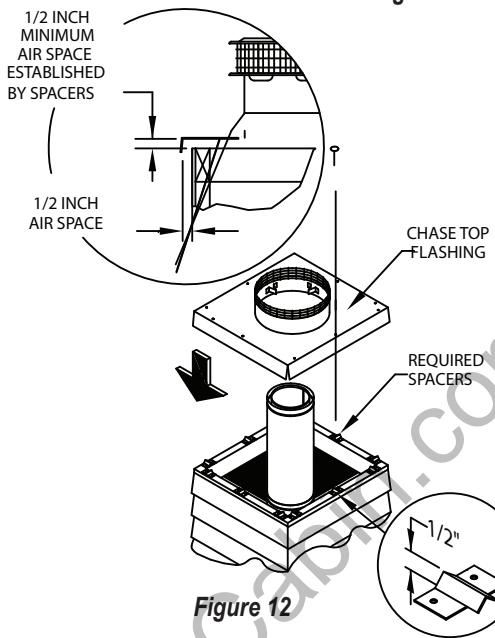
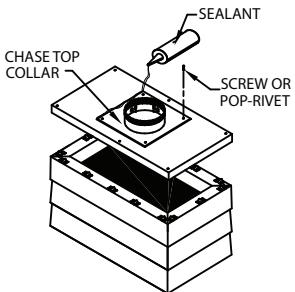
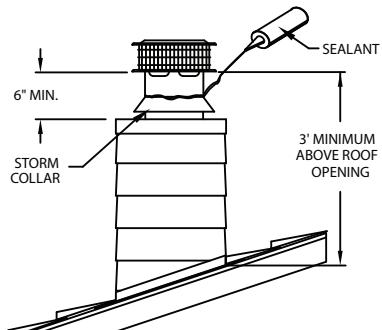
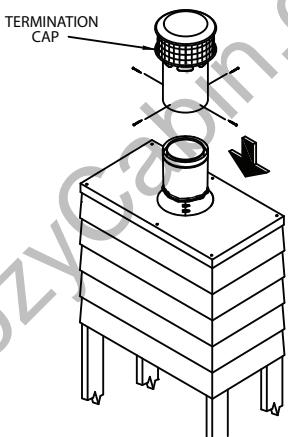

Figure 12
Figure 14
Figure 15
Figure 16
12. Attach Flashing: For chase enclosures, use a Chase Top Flashing. The Chase Top Flashing allows for a 1 ½-inch clearance maintained from the chimney and provides required ventilation air. Install the Chase Top Flashing at the top of the chase with a ½-inch minimum air clearance off the top of the chase construction (*Fig. 12, 13*). Use spacing clips provided to establish ½-inch air clearance. If the Chase Top Flashing does not fit the dimensions of the chase, use a Chase Top Collar Section and extend the base of the flashing as needed for the chase dimensions.
Ensure the minimum $\frac{1}{2}$ -inch spacing and perimeter ventilation requirements are met as show in **Figure 12**. Secure the Chase Top Collar Section to the field-fabricated chase top with sheet metal screws or rivets (**Fig. 14**). Seal Chase Top Collar Section to chase top with non-hardening waterproof sealant to ensure a weather tight connection. Additional screening as needed for field-fabricated chase covers is allowed. Additional $\frac{1}{2}$ -inch minimum spacers can be field-fabricated as needed out of 24 GA sheet metal or other suitable non-combustible material. Additional non-combustible structural supports can be field-fabricated to help support the chase top flashing if needed, provided the air ventilation requirements are maintained. Secure the Chase Top Flashing to the chase with at least three (3) screws or nails per side. When installed, the bottom of the Chimney Cap must be at least 6 inches above the Chase Top Flashing (**Fig. 15**).
13. Finish Top: Apply a non-hardening waterproof sealant around the chimney at the point where the Storm Collar will meet the chimney just above the Flashing (**Fig. 15**). Slide the Storm Collar down over the chimney to the top of the Flashing. The Storm Collar must be installed 1-inch off the Chase Top Flashing to provide proper ventilation (**Fig. 15**). Tighten the bolts of the Storm Collar and seal the Storm Collar against the Chimney with sealant. Be sure Chimney and Offsets are properly supported. Attach the Chimney Cap onto the top of the chimney by setting the female end of the Cap onto the male end of the last Chimney Section. Secure the Cap by using four (4) sheet metal screws provided (**Fig. 16**). Do not push down from the top portion of the cap as this may damage the cap. Push from the lower section of the Cap if needed. The Chimney Cap can be removed for chimney cleaning as described in the Chimney Maintenance section of the instructions.